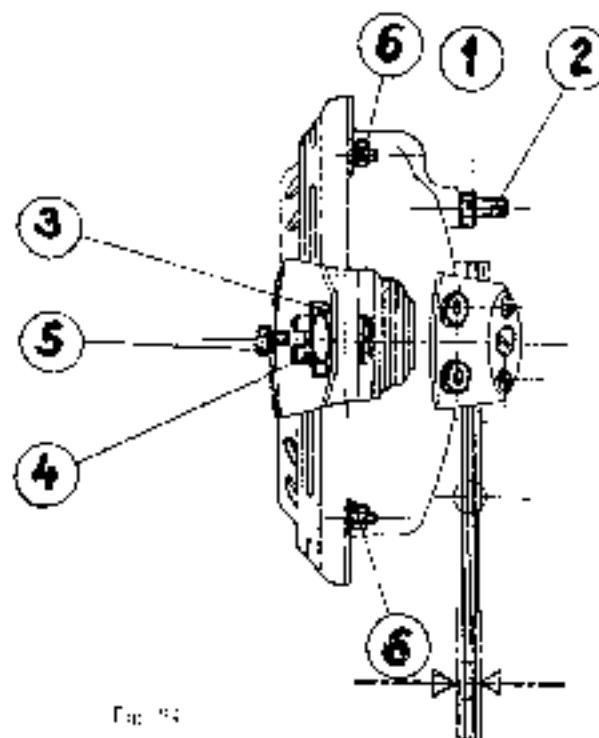

Fig. 84
Prior to adjusting clamp the horn firmly onto a vice with its bracket for the points marked \longleftrightarrow (see Fig. 84) and, using a spanner, tighten well all the nuts (2).